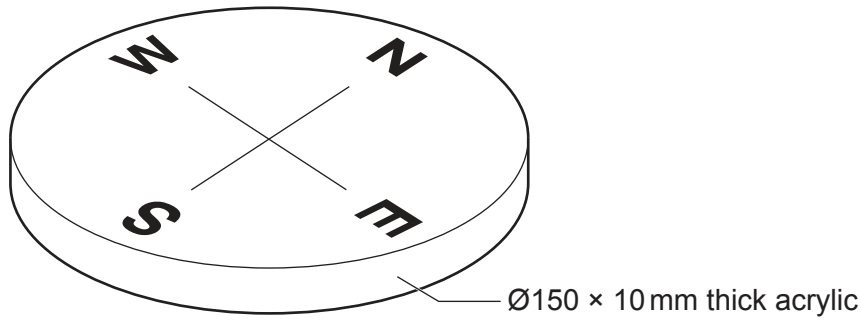

**Fig. 13.8**
- (f) Fig. 13.8 shows details of a weather vane that will be attached to the column of the wind gauge at position **A**.